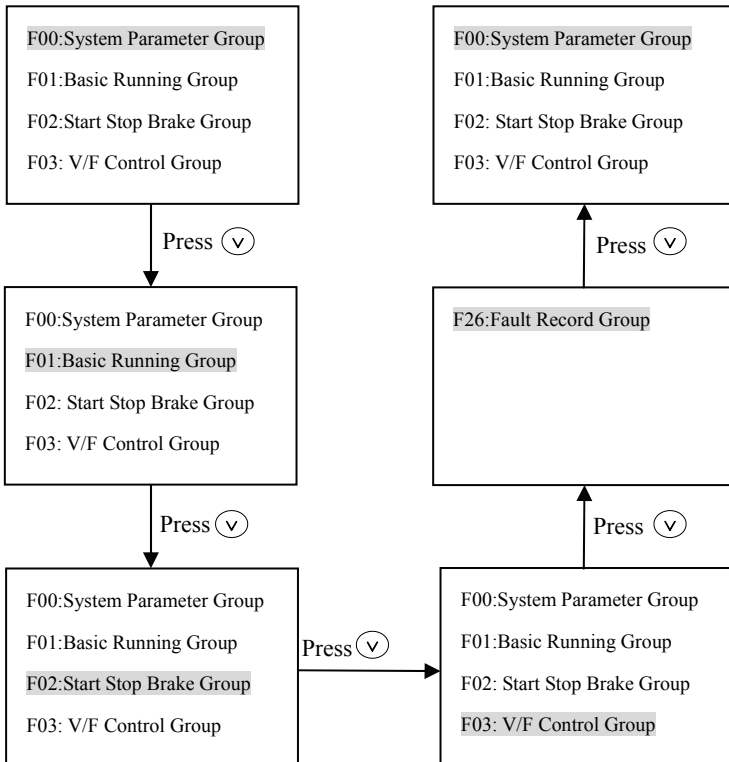

Fig.C-4 Power on initialized display
(2) Operation of switching to firstly menu (Fig. C-4):
When set F00.00=2, Senior Menu parameters F00~F27 can be displayed, 28 groups in total. Operation methods are shown as Fig. C-4.